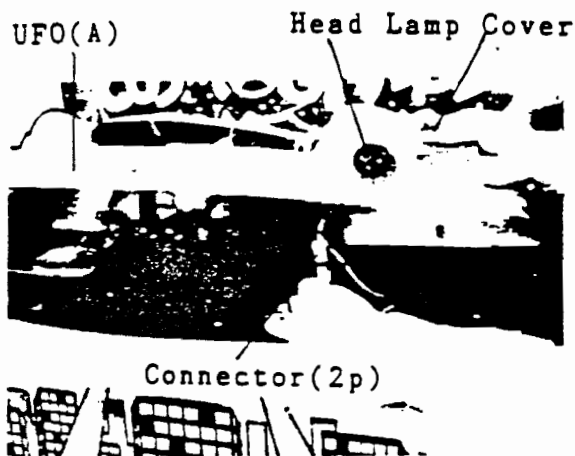

fig. 7-17
(9) Replacing the Boss Character Assy
- ① Remove the UFO (A) (M5 button bolt, washer : 5 sets). Disconnect the connectors of two head lamps at the same time. [Ref. Fig. 7-17]